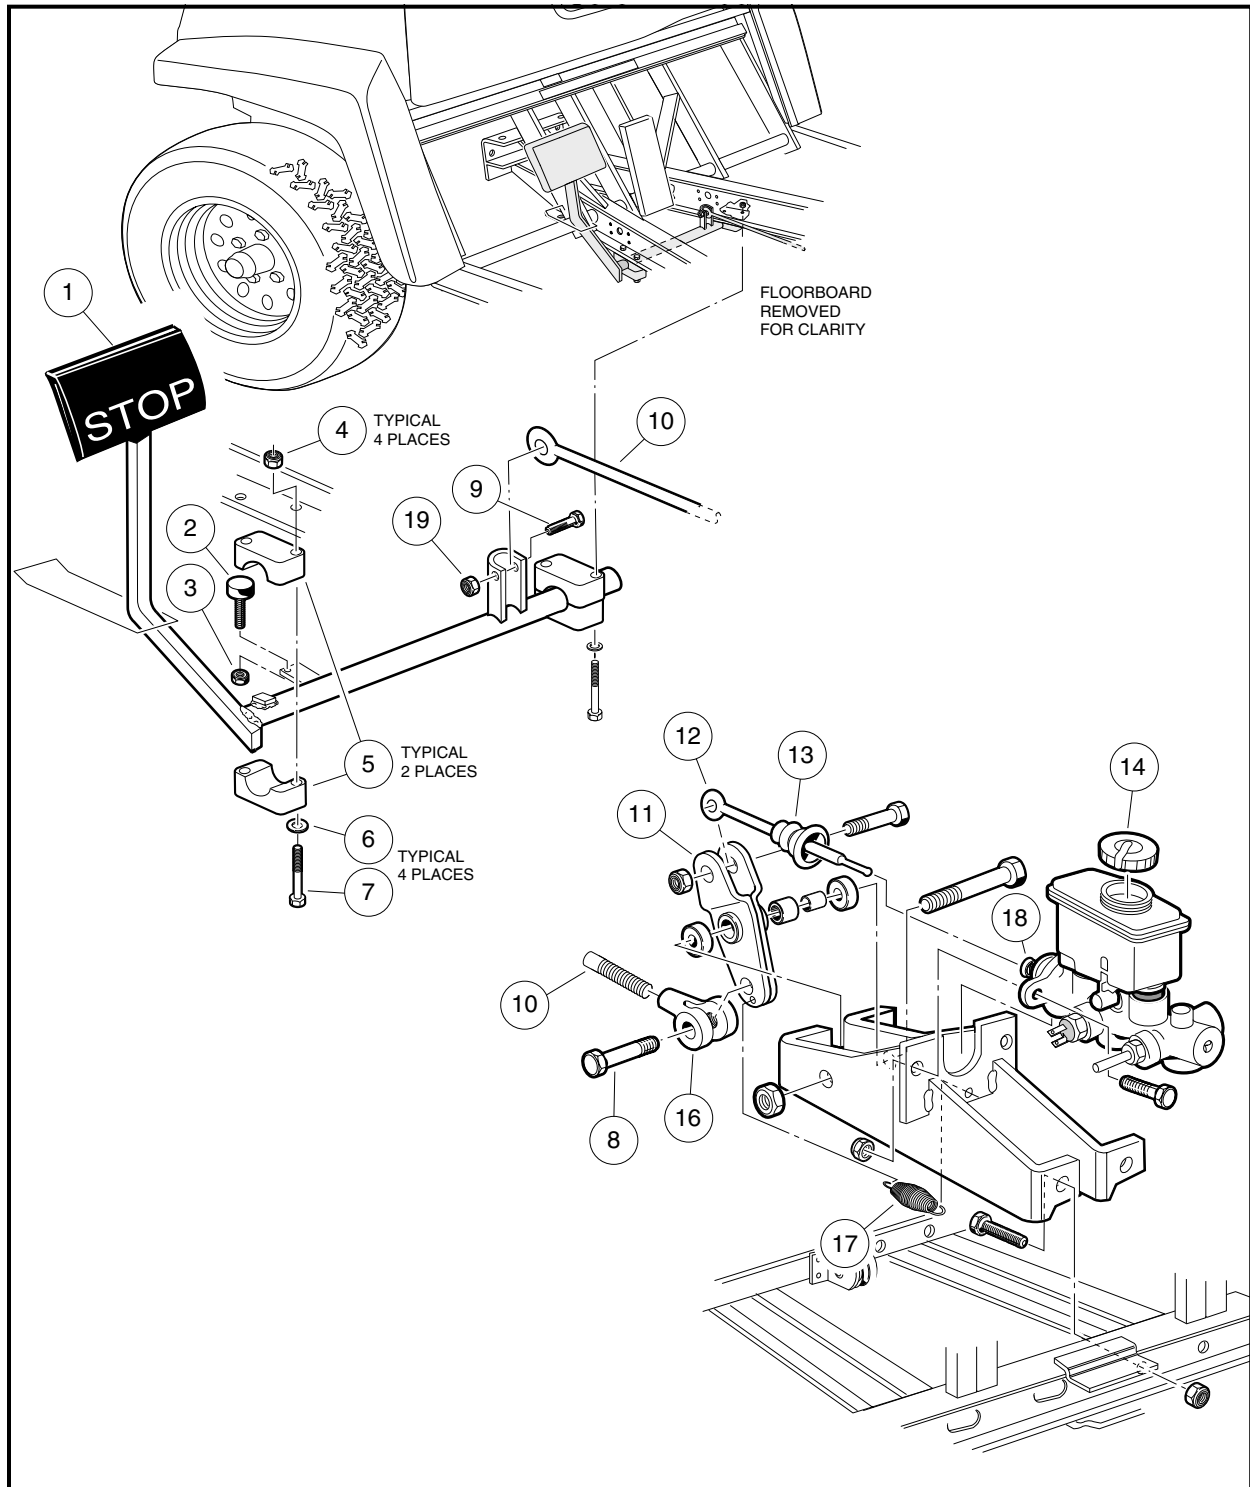
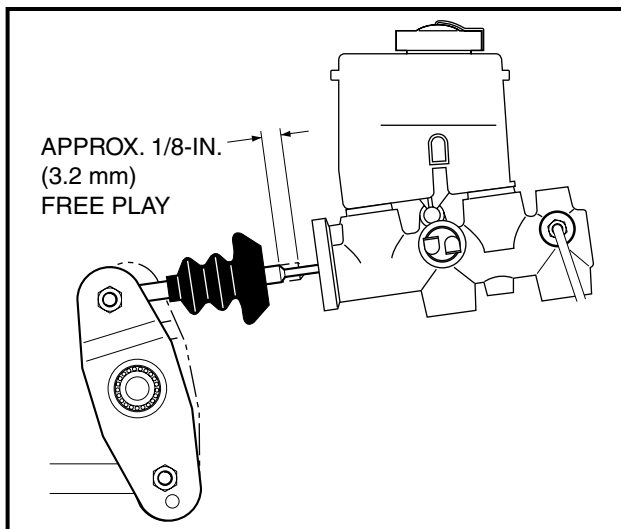

Figure 5-1 Brake Pedal Assembly
Figure 5-6 Push Rod Free Play
- 6.1. Remove the bolt (9) and nut (19) from the brake pedal weldment (**Figure 5-1, Page 5-3**).
- 6.2. Remove nuts (4), flat washers (6), bolts (7), and mounting blocks (5). If the mounting blocks (5) show signs of excessive wear, or are damaged, they must be replaced with new ones before installing pedal assembly (**Figure 5-1, Page 5-3**).
- 6.3. Remove the nut (3) and brake stop bumper (2) (**Figure 5-1, Page 5-3**).
1. From the top side of the floorboard, insert the brake pedal weldment assembly (1) through the opening in the floor as shown (**Figure 5-3, Page 5-4**) and install the brake pedal stop bumper (2) and nut (3) (**Figure 5-1, Page 5-3**) on the brake pedal assembly, but do not tighten the jam nut at this time.
2. Attach the equalizer rod (10) to the brake pedal weldment assembly (1) as shown (**Figure 5-1, Page 5-3**). Tighten to 17 in-lb (1.9 N·m).
3. Position and attach brake pedal assembly and mounting blocks (5) with bolts (7), washers (6), and lock nuts (4) to vehicle frame as shown. Tighten to 70 in-lb (7.91 N·m) (**Figure 5-1, Page 5-3**).
2. Remove the rod retaining bolt (8) and remove the clevis (16) from the bell crank assembly (11) (**Figure 5-1, Page 5-3**).
8. Adjust the clevis (16) by rotating it clockwise or counterclockwise so that the rod retaining bolt (8) can easily be placed through the clevis (16) and the bottom hole in the bell crank assembly (11) (**Figure 5-1, Page 5-3**).
NOTE: The spring (17) should not be under tension while the brake pedal is at rest (**Figure 5-1, Page 5-3**).
9. Install the rod retaining bolt (8) through the clevis (16) and the bell crank (11). Tighten the bolt to 14 ft-lb (19 N·m) (**Figure 5-1, Page 5-3**).
10. Observe the push rod while pressing the brake pedal. There should be at least 1/8 inch of free play (at the push rod) before the push rod begins to depress the master cylinder piston (**Figure 5-6, Page 5-7**). An accurate measurement is not necessary, but it must be a minimum of 1/8-inch (4.44 mm) so that the push rod does not contact the master cylinder piston when the pedal is at rest.
NOTE: Brake pedal free play is the distance the push rod (12) travels before the master cylinder piston (18) is depressed (**Figure 5-1, Page 5-3**). Also see **Figure 5-6, Page 5-7**.